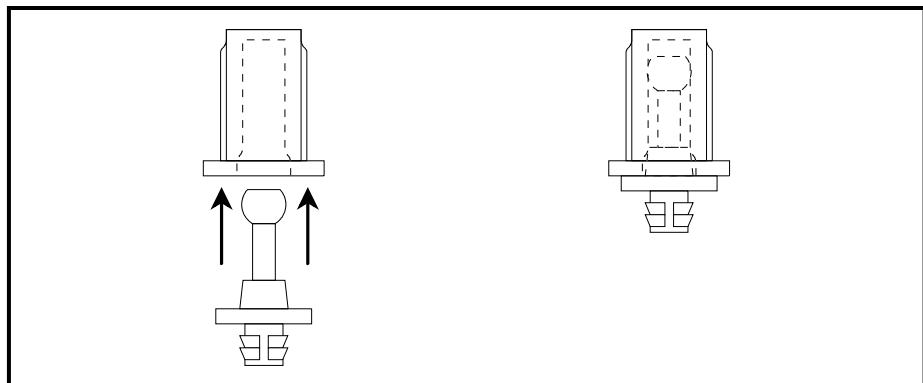

Figure 2.5 - Insertion of new grille pin into installation tool.
3. Insert the new grille pin in the grille pin installation tool (see figure 2.5).